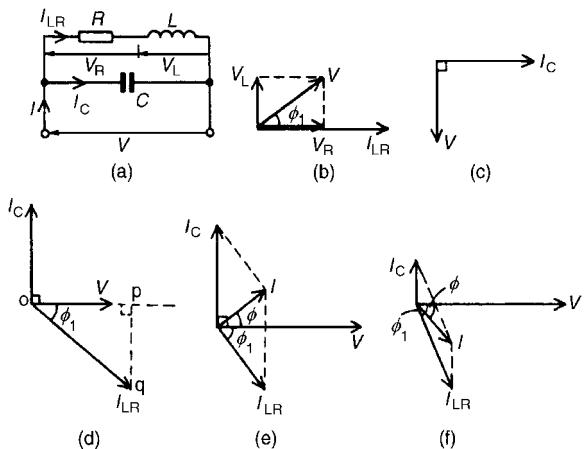

Figure 16.5
In the two branch circuit containing capacitance C in parallel with inductance L and resistance R in series (such as a coil) shown in Fig. 16.5(a), the phasor diagram for the LR branch alone is shown in Fig. 16.5(b) and the phasor diagram for the C branch is shown alone in Fig. 16.5(c). Rotating each and superimposing on one another gives the complete phasor diagram shown in Fig. 16.5(d)
The current I_{LR} of Fig. 16.5(d) may be resolved into horizontal and vertical components. The horizontal component, shown as op is $I_{LR} \cos \phi_1$ and the vertical component, shown as pq is $I_{LR} \sin \phi_1$. There are three possible conditions for this circuit:
- $I_C > I_{LR} \sin \phi_1$ (giving a supply current I leading V by angle ϕ —as shown in Fig. 16.5(e))
- $I_{LR} \sin \phi > I_C$ (giving I lagging V by angle ϕ —as shown in Fig. 16.5(f))
There are two methods of finding the phasor sum of currents I_{LR} and I_C in Fig. 16.5(e) and (f). These are: (i) by a scaled phasor diagram, or (ii) by resolving each current into their ‘in-phase’ (i.e. horizontal) and ‘quadrature’ (i.e. vertical) **components**, as demonstrated in problems 6 and 7. With reference to the phasor diagrams of Fig. 16.5:
Resonance occurs in the two branch network containing capacitance C in parallel with inductance L and resistance R in series (see Fig. 16.5(a)) when the quadrature (i.e. vertical) component of current I_{LR} is equal to I_C . At this condition the supply current I is in-phase with the supply voltage V .